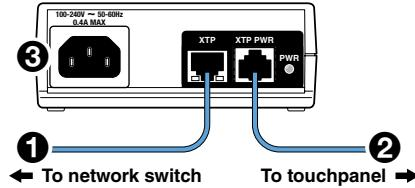

Figure 4. XTP PI 100 Power Injector
Figure 4 shows the Extron XTP PI 100. Your power injector may look different.
1. Connect a straight-through Ethernet cable from the power injector to a switch or router (figure 4, ①). This cable carries network information from the switch or router to the power supply.